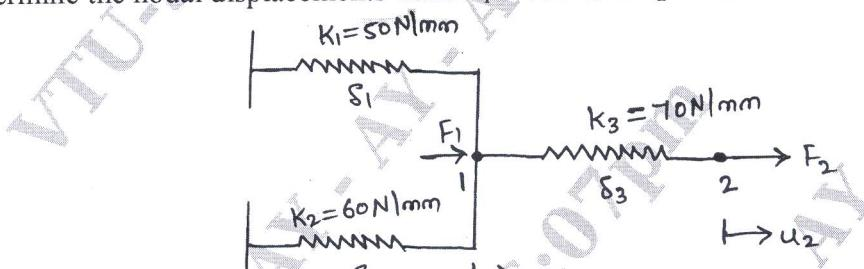

Fig Q2(b)
- b. For the spring system shown in Fig Q2(b) using principle of minimum potential energy, determine the nodal displacements. Take $F_1 = 75N$ and $F_2 = 100N$?